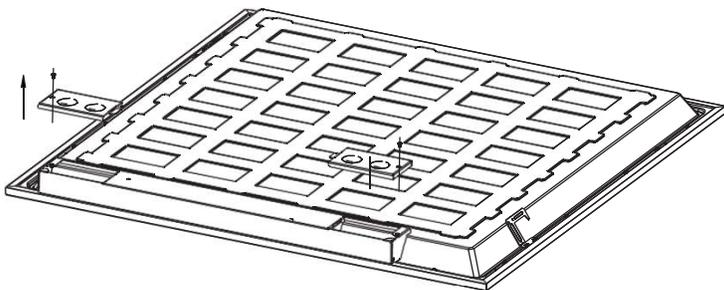

Figure 1
3. Unscrew driver cover and remove knockouts to wire power supply. **(Figure 1)**
1. Remove accessories from the package carefully. Put together the four-piece drywall flange kits by using the supplied Wafer Head Self Tapping Screws . **(Figure 1)**